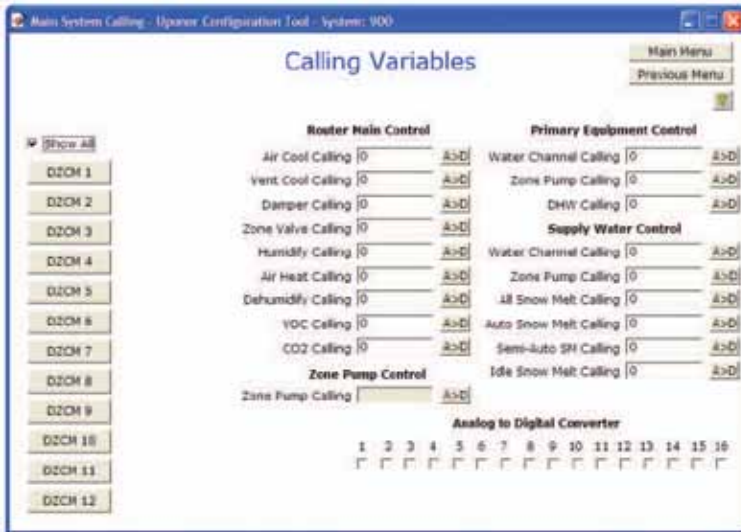

Figure 4.1-3: Calling Variables Window
2. Click the **Calling Variables** button to display the Calling Variables screen, shown in **Figure 4.1-3**.
If the Calling Variable fields for a given control are gray (as shown for the SWT in **Figure 4.1-3**), it means the device is not installed or is not communicating.
Figure 4.1-3 shows the value for all Calling Variables is zero. A zero indicates no call, which means no heating, cooling or ventilation functions are occurring. Calling Variable values are explained later in this section.